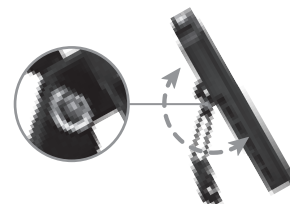

Fig. 2
- 5.- Adjust the angle that you needs, loosen up the side screws (Fig. 2)